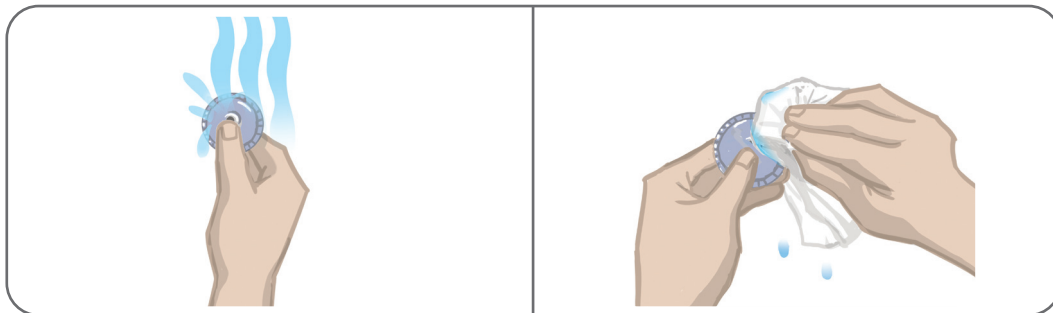

Figure 8-4: Wetting and Removing Excess Water
4. Wet the Round Cloth Electrodes with water until they are saturated. See Figure 8-4.
5. With a cloth, gently wipe or blot excess water off the back (side with the snap) of the electrodes. See Figure 8-4.